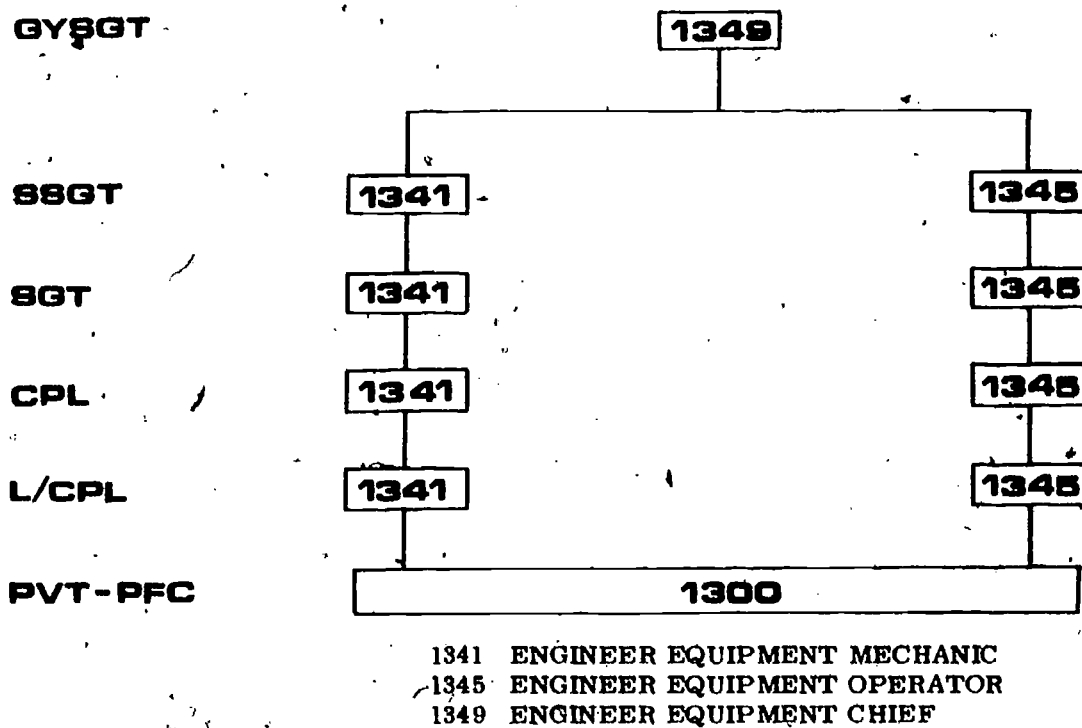

Fig 1-2. Engineer equipment MOS's.
c. Promotion (fig 1-2).
- (1) Related MOS's. The engineer equipment operator is just one of the three MOS's in the Construction, Equipment, and Shore Party field which deal with engineer construction equipment. The other two MOS's are the engineer equipment mechanic (1341) and the engineer equipment chief (1349). Mechanics take care of repairs while the equipment chief, GySgt and above is primarily a supervisor, platoon sergeant, or section chief.
- (2) Operator assignments. Once you are assigned to a unit you may become an assistant operator, or the organization may conduct or send you to an operator's training course in order to qualify you for an MOS. Normally, you will be assigned a particular MOS within 6 months. After passing tests on particular items of equipment, you will be issued a Government operator's license for this equipment. You will retain the same MOS, 1345, as you advance in rank from PFC through SSgt. Your responsibilities will gradually increase as you acquire more experience and rank.
- (3) Affects of T/O and T/E on assignments. As a private or Pfc, you will probably be assigned as the assistant operator of a specific item of equipment such as a crawler-tractor. It is your responsibility to learn how to operate and maintain that item. It is also your responsibility to learn about the operation and maintenance of other items, but never neglect the item to which you were assigned. Promotions through the rank of Cpl are dependant upon the table of organization (TO) and your individual initiative and ability. After you have gained experience or have been promoted, you may be assigned as the senior operator for a specific item of equipment or to one of the other jobs related to engineer equipment operation. For example, a Cpl is expected to be able to operate crane-shovel equipment and Sgt's and above operate graders and other more complicated equipment. After becoming an NCO, you may be assigned as the senior equipment operator or section chief. You may also be assigned as company or battalion dispatcher. The dispatcher maintains equipment records, and schedules the operational commitments of all equipment. As a staff sergeant equipment operator, you will usually fill the billet of equipment foreman at a job site, section chief, or platoon sergeant of a heavy equipment platoon or section. Staff sergeant is the highest rank in the 1345 MOS.
- (4) Obtaining a new MOS. After completing recruit training, you will be assigned to a unit and given a basic MOS or to a school that will train you for a specific MOS. The basic MOS for the engineers is 1300. After successful completion of certain schools, certain correspondence courses, or a period of on-the-job training (usually 90 days), privates and above are assigned one of the primary MOS's in the 1300 occupational field (OF). For the purposes of this course, it would be MOS 1345. Once the primary MOS has been assigned, it is retained until the individual qualifies for a higher MOS, is promoted to a rank eligible for a higher MOS, successfully completes a formal school that qualifies him for a higher MOS, or a board of investigation finds him incompetent. After promotion to gunnery sergeant, you change MOS and become an Engineer Equipment Chief, 1349. A chief is capable of filling either an equipment maintenance or operation billet. He is generally the maintenance chief, or platoon sergeant, of a large equipment organization.